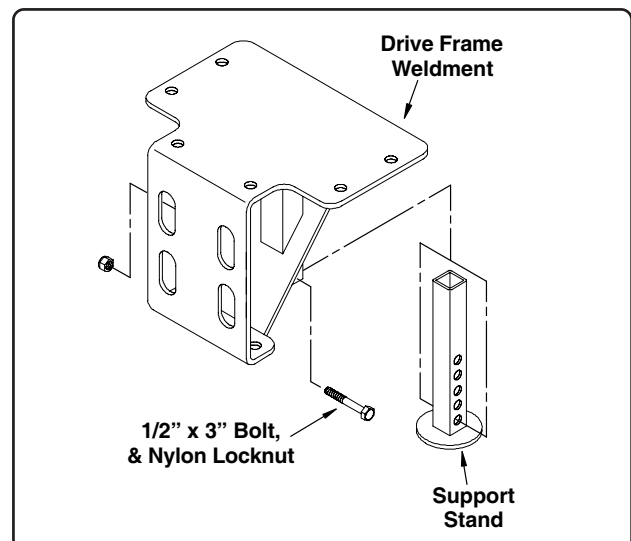

Fig. 1
1. Locate the drive frame and support stand from the kit (See Fig. 1). Using one (1) 1/2" x 3" bolt and nylon locknut, secure the support stand into the drive frame tube.